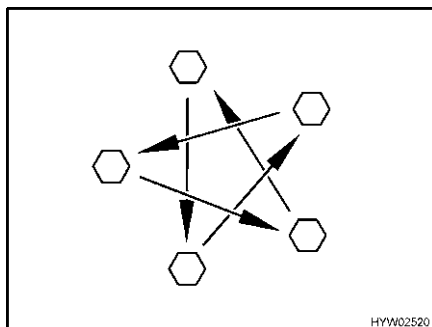

Fig. 274 Tighten the wheel nuts or wheel bolts cross-wise
- Check regularly that the wheel nuts or wheel bolts are firmly seated. Retighten the wheel nuts or wheel bolts of a changed wheel cross-wise (Fig. 274) after 50 km (30 miles). See section 13.5.2 for tightening torque.
- ▷ Tighten the wheel nuts or wheel bolts cross-wise (Fig. 274).